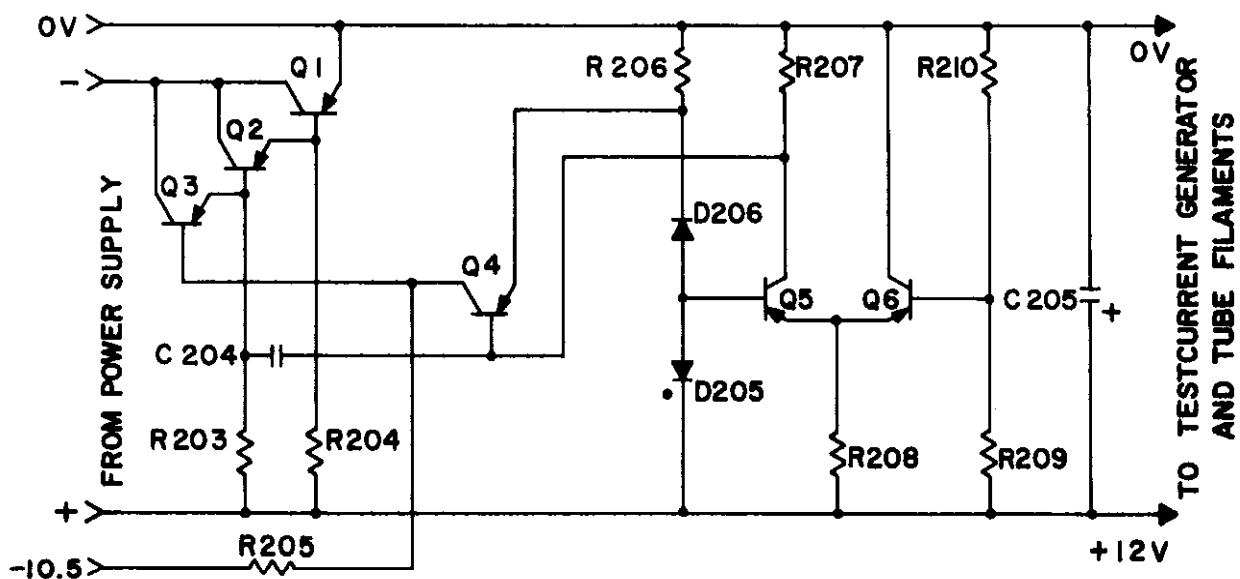

Figure 9. Super Regulated 12 Volt Supply Schematic Diagram
2. THE SUPER-REGULATED 12 VOLT SUPPLY: (Fig. 9) The unregulated 20 volts dc obtained from rectifiers and the transformer is applied to a solid state regulator consisting of Q1 through Q6 and D202, D205, and D206. Q5 and Q6 form a differential amplifier which compares the voltage across the output of the regulator (C205 is across the output) via divider R210 and R209 to the voltage supplied by zener reference diode D205. If the voltages at the bases of Q5 and Q6 are not equal, the collector voltage of Q5 changes. This change is further amplified by Q4, Q3 and Q2. The signal is finally applied to the base of the series element in the regulator Q1. The signal is always of such magnitude and phase that output voltage is instantaneously brought back to 12 volts. RF-14 is a forward biased diode which sets the emitter voltage of Q4. The collector load resistor of Q4, R205, is returned to minus 10 volts supplied by zener, D202. This extra regulated voltage permits Q4
- b. THE SUPER REGULATED 12 VOLT SUPPLY (See Figure 9): Replace transistor Q-1 in the circuit. Determine that the regulated 12 volts across C205 does not vary more than 5 mv with line voltages from 105 volts to 125 volts. Use a variable autotransformer to supply the line voltage. (General Radio Variac).